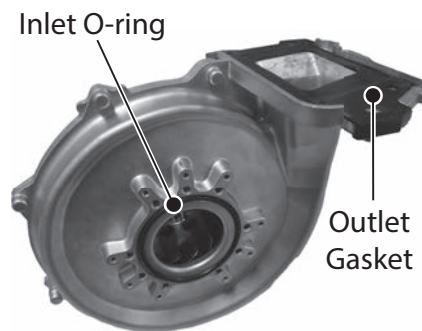

Figure 87 - Install inlet O-ring and outlet gasket to new fan assembly
- 14** Remove the four (4) screws and separate the venturi assembly from the old fan. Set the old fan aside as an orientation reference.
- 15** Locate the new fan, outlet gasket, and inlet O-ring provided in kit. Install outlet gasket and inlet O-ring to fan (see Figure 87). Once installed, make sure the outlet gasket and inlet O-ring are fully seated and not damaged.